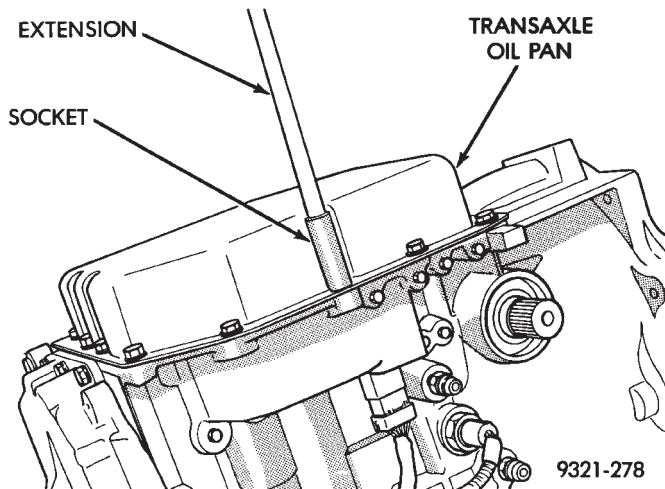

Fig. 43 Remove Transaxle Oil Pan Bolts
- (1) Disconnect the MVLPS wiring connector. The solenoid wiring connector can remain attached to the case.
- (2) Disconnect the shift cable from the shift lever (at the transaxle).
- (3) Move the shift lever clockwise as far as it will go. This should be one position past the L position. Then remove the shift lever.
- (4) Remove transaxle pan bolts (Fig. 43).